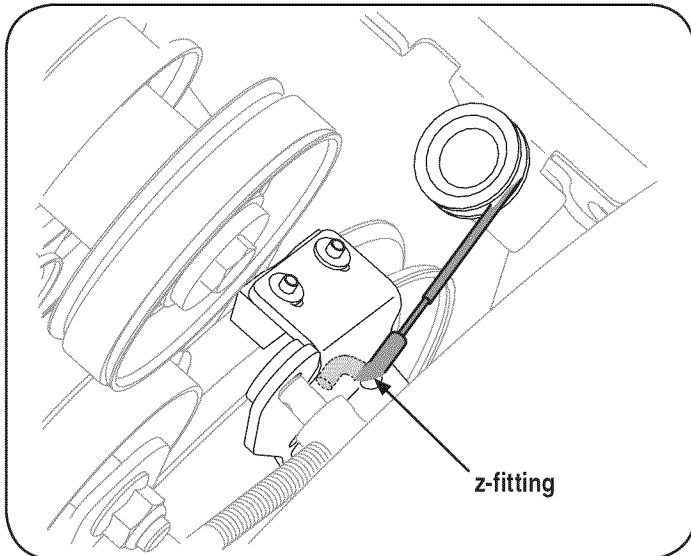

Figure 30
3. Pull the brake bracket assembly towards the cable guide roller and unhook the auger cable z-fitting. See Figure 30.